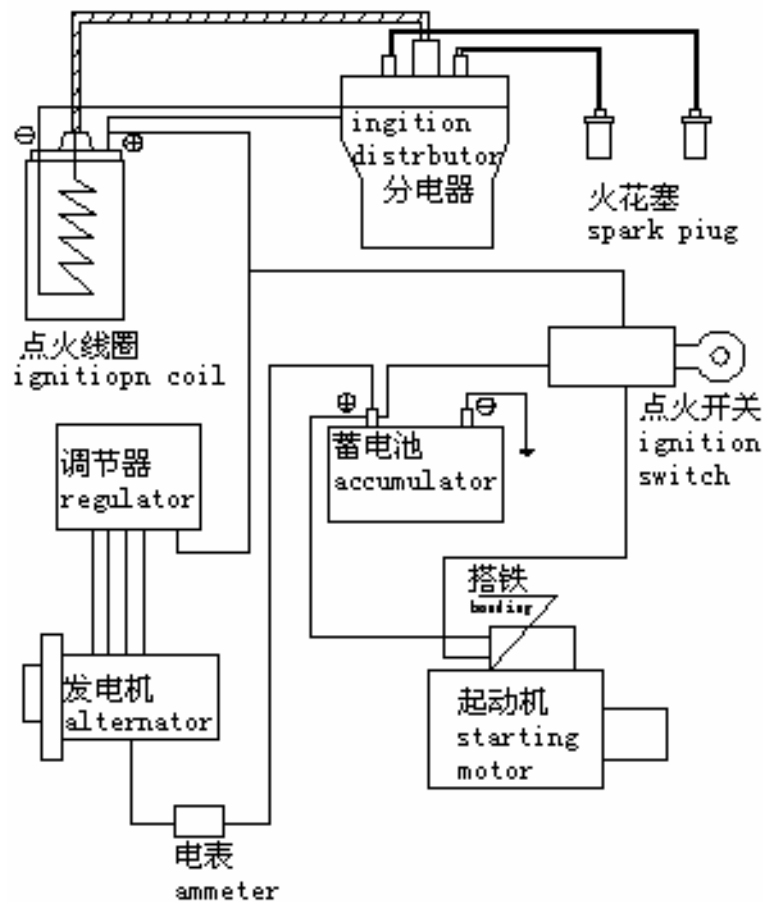

Fig.3-12 The electrical diagram of engine
- B. Align the mark on distributor shaft with that on the housing (refer to fig.3-12).